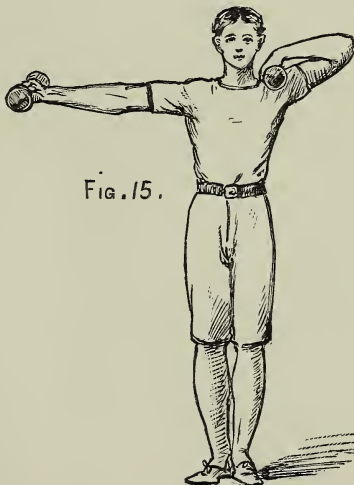

FIG. 15.
Exercise 13 (Fig. 15).—Another difficult one. The clubs are swung downwards, parallel to each other, and then raised up behind the back (as shown by the dotted arms), then swung to the front again, and in a circle completely round at arms' length. The left club executes exactly the same movement as the right in the last exercise (12), but with the right club in this the movement is different. The wrist should be twisted sharply downwards, and the club *tucked under* the right arm; its own weight will then carry it down behind the back, and up to a level and in a line with the right shoulder, reaching that position exactly at the same time as